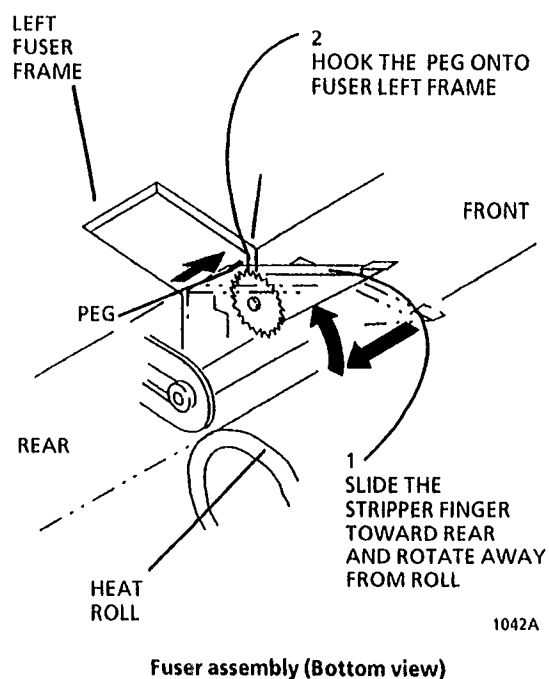

Figure 1. Securing the Stripper Fingers
4. (Figure 1): Secure the stripper fingers away from the heat roll.